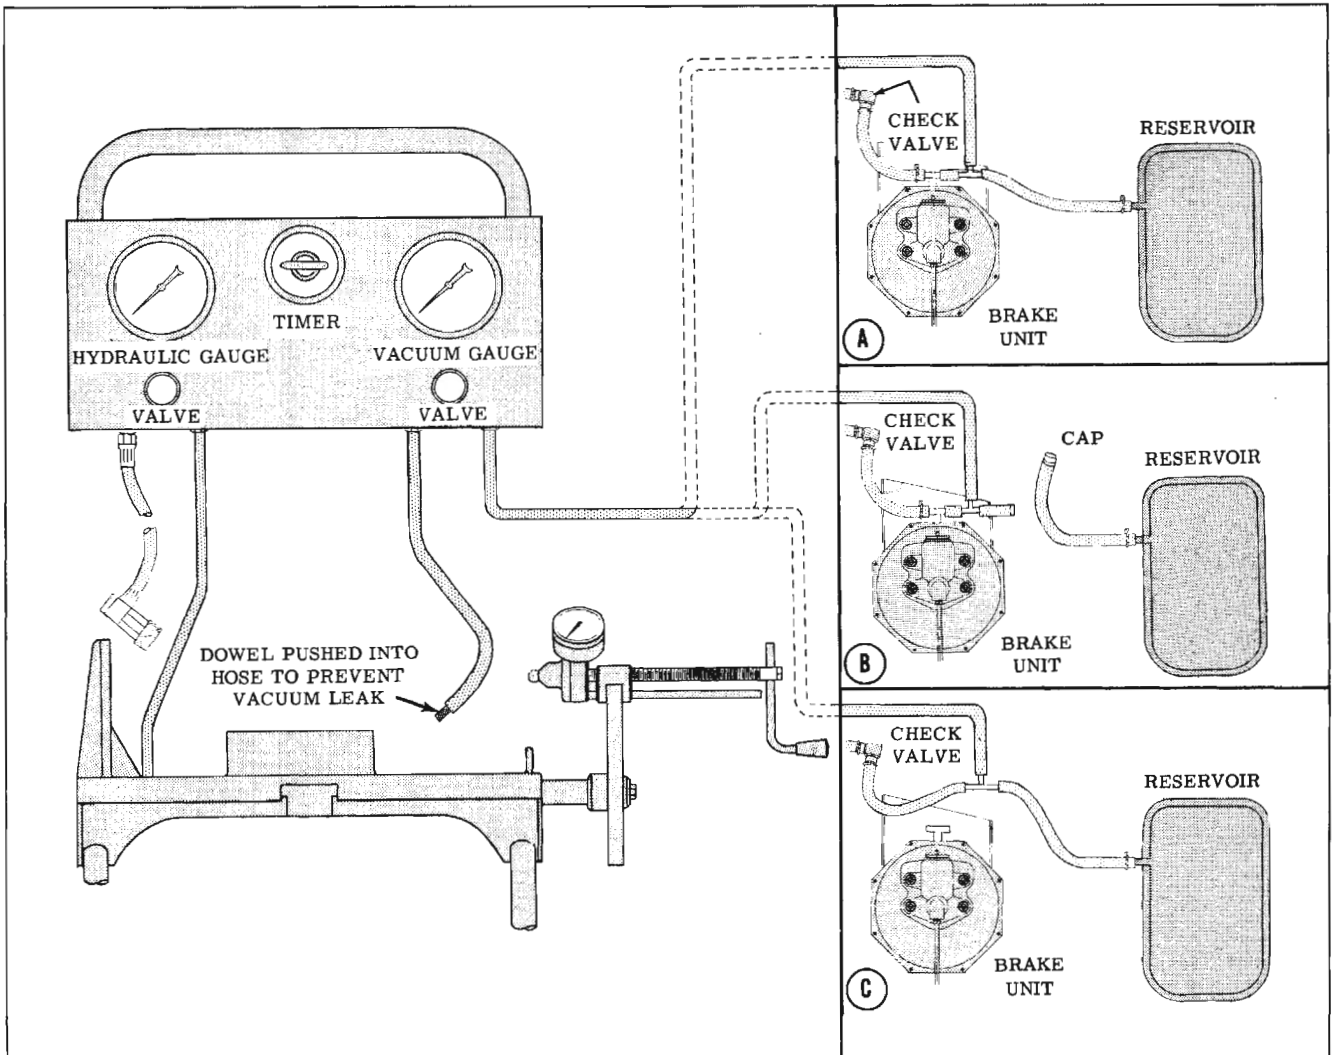

Fig. 7-35 Hose Connections (Testing on Car)
1. Connect tester hoses as shown in Fig. 7-35, Inset A.
1. Connect tester hose as shown in Fig. 7-35, Inset B.
1. Connect test hoses as shown in Fig. 7-35, Inset C.